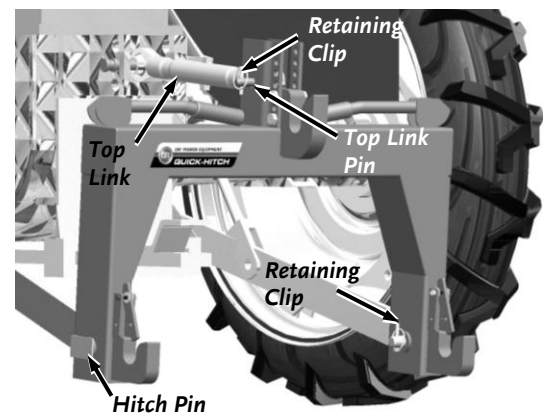

Figure 12
4. While continuing to support the Quick Hitch, remove the lower Retaining Clips and Hitch Pins (**Figure 12**). Lower the Quick Hitch to the Ground.